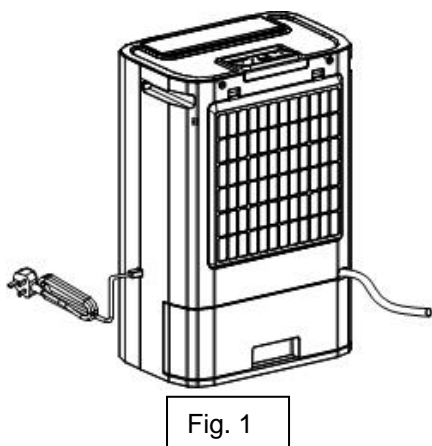

Fig. 1
- 3.5. Now push the water tank back into its normal position. Make sure that the hose is routed through the small opening provided for it on the right above the condensation tank and that everything is properly seated and that no water can leak out at the connections (see fig. 1).